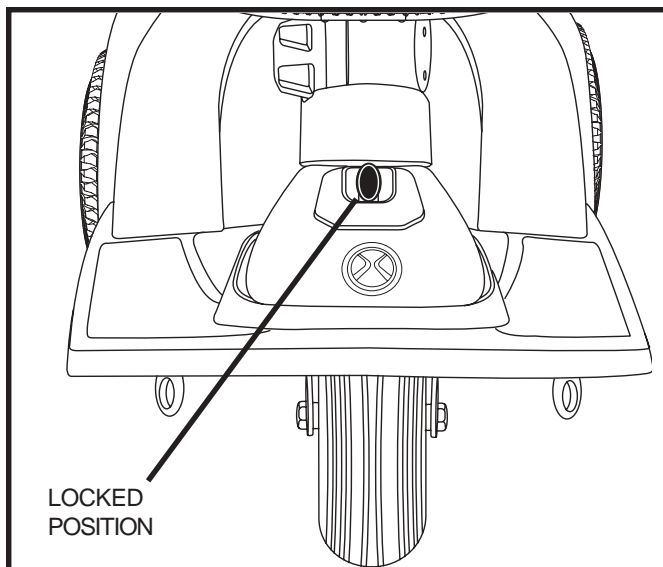

Figure 19. Tiller Lock Knob (Locked)
2. Lock the tiller in the straight ahead position by pushing the tiller lock knob in and turning it clockwise 90°. See figure 19. The front wheel must face forward in order to lock the tiller.